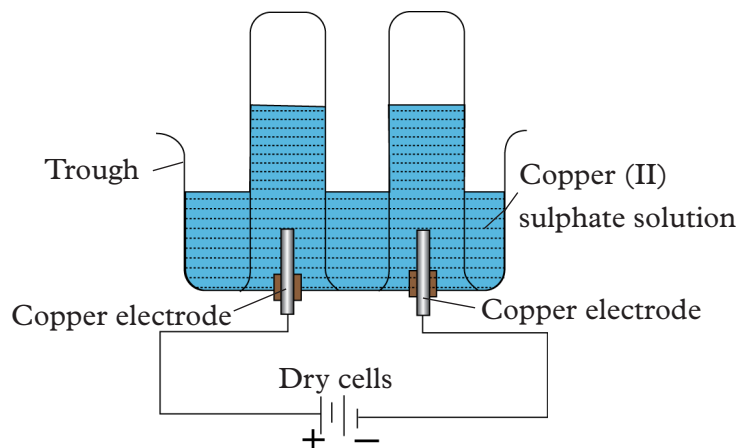

Fig. 8.8: Electrolysis of copper (II) sulphate using copper electrodes
- Put copper (II) sulphate solution in a beaker.
- Set up the apparatus as shown in Fig. 8.8 and switch on electric current.